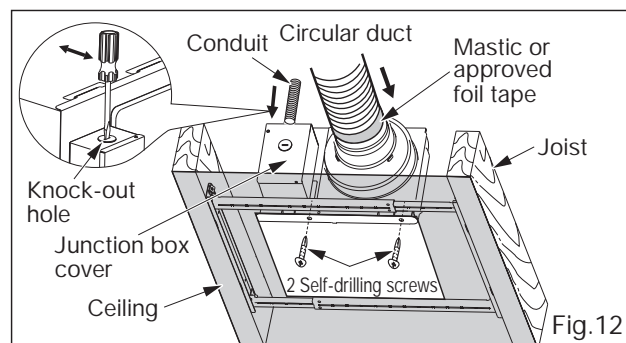

Fig.12
3. Install the adaptor to Flex-Z Fast™ bracket by using 2 self-drilling screws. (Fig.12)